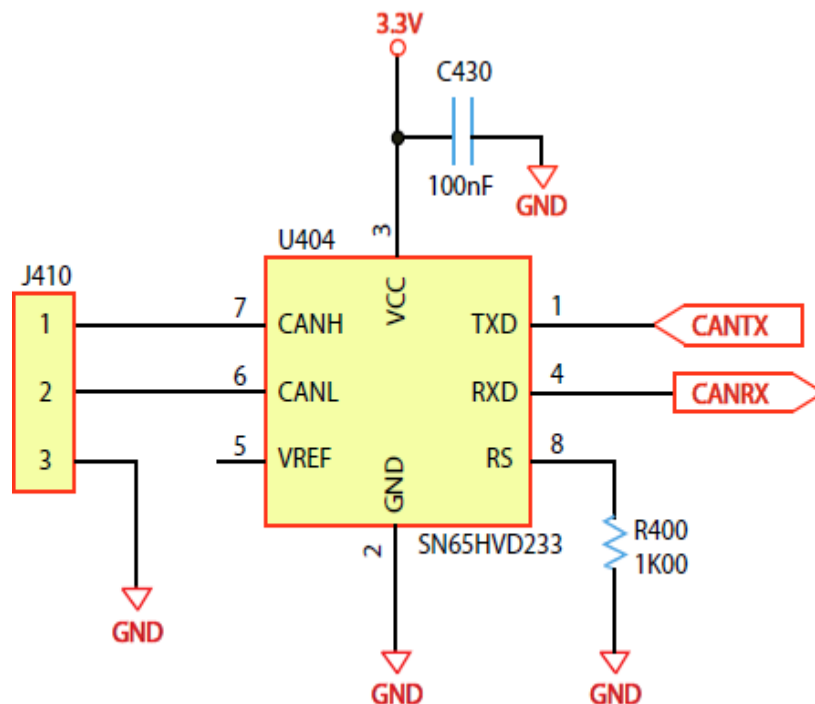

Figure 2-6: P326 CAN design example
- USB device port (data communication) shown in Figure 2-6 serves as a high-speed data communications port, such as for a PC